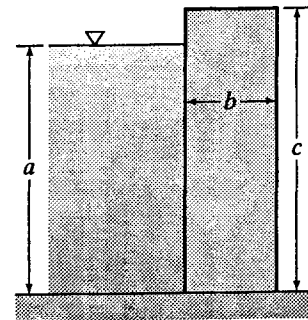

Figure X3.7.11
3.7.11 What minimum value of b in Fig. X3.7.11 is necessary to keep the rectangular masonry wall from sliding if it weighs 160 lb/ft^3 , $a = 14 \text{ ft}$, $c = 16 \text{ ft}$, and the coefficient of friction is 0.45 ? With this minimum b value, will it also be safe against overturning? Assume that water does not get underneath the block.